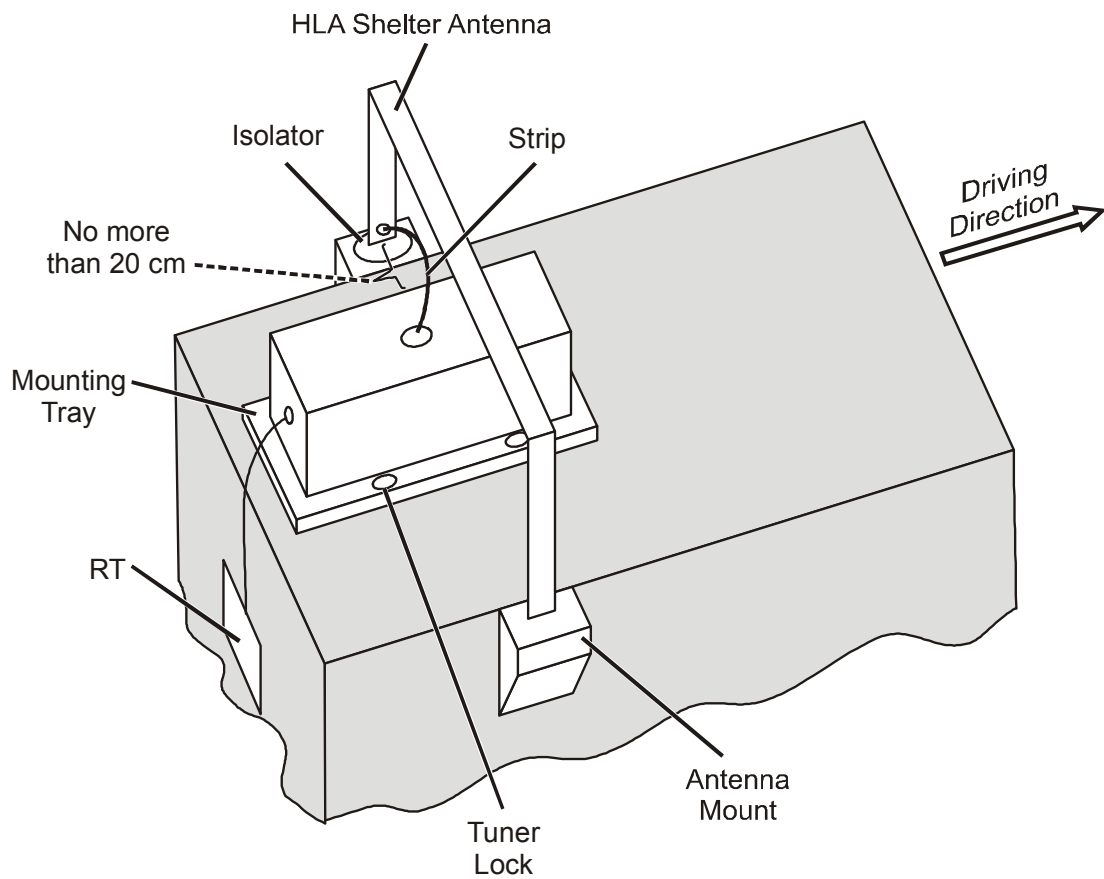

Figure 2-11. HLA Shelter Antenna Installation
2.3.2.1 Preparation for Installation (See Figure 2-11)
- c. According to the mechanical design, verify the distance between the mounting tray and the antenna mount does not exceed 20 cm (see Figure 2-11).
- f. Verify the lock tuner locks are facing towards the center of the shelter (see Figure 2-11).
- a. Connect RF cable connector (CG-2423) to RF connector on the HLA Tuner (see Figure 2-11).